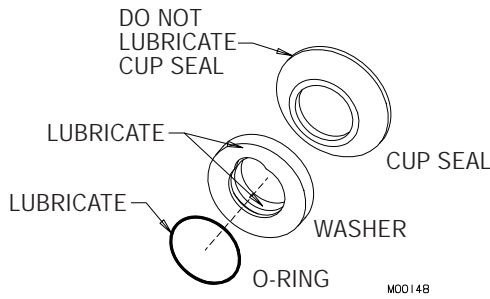

Figure 7-1
1. See figure 7-1. To assemble the shaft seal, install the cup seal and O-ring on the plastic washer. Apply a moderate amount of approved sanitary lubricant (such as Lubri-Film Plus) to the O-ring and the face of the plastic bushing opposite the bell portion of the seal. Do not allow any lubricant to come into contact with the bell-shaped rubber portion of the seal. Wipe off any excess lubricant from the beater shaft.